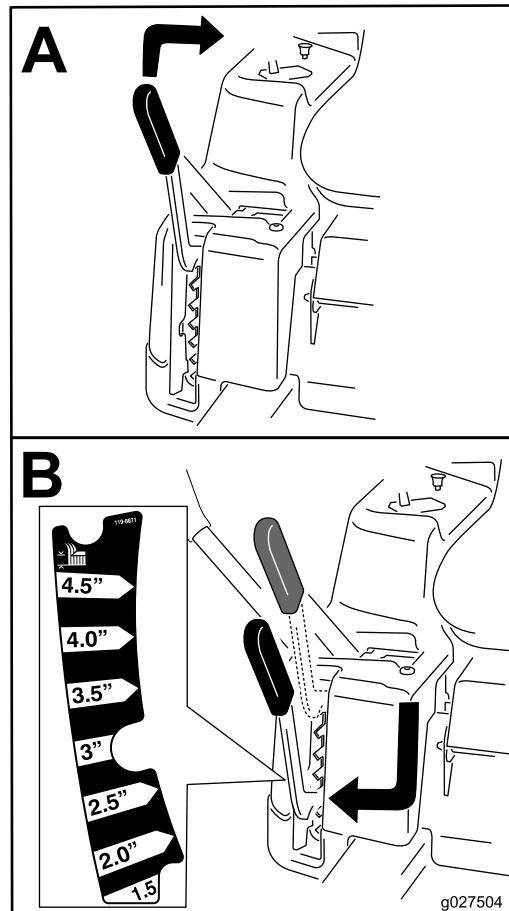

Figure 23
**Note:** The transport position is the highest height-of-cut position at 115 mm (4-1/2 inches) as shown in Figure 23.